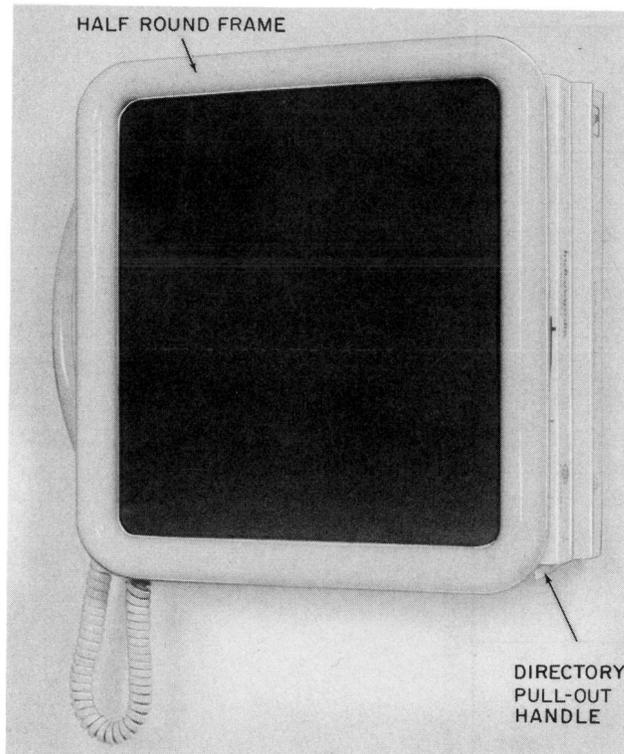

Fig. 1—950A1 or 2950A1 Telephone Set Equipped With a Blackboard Front Panel
1.01 This section contains information for the 950A1, A2, A3, and 2950A1, A2, A3 (Fig. 1) DESIGN LINE* wall telephone (*Noteworthy**) sets.